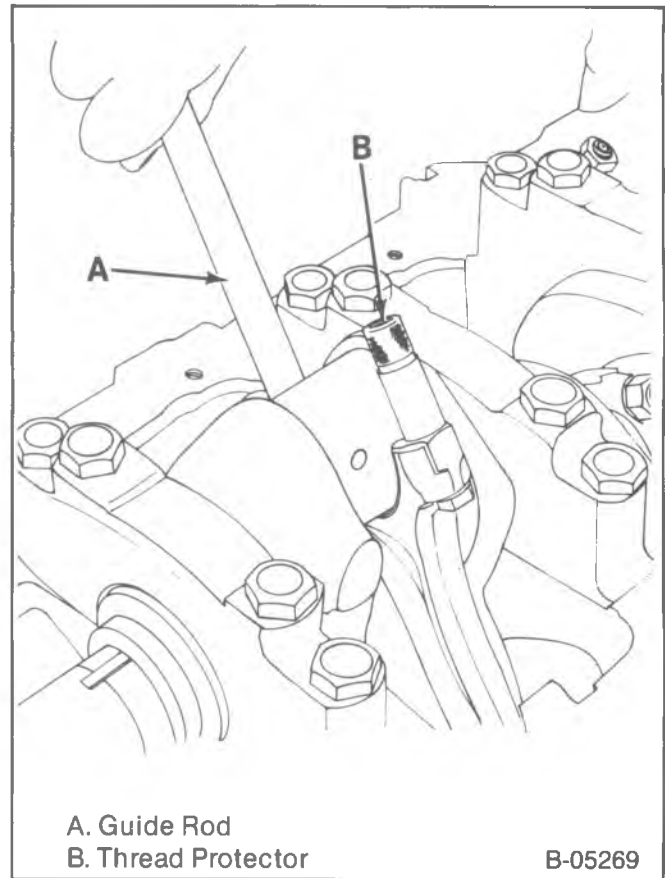
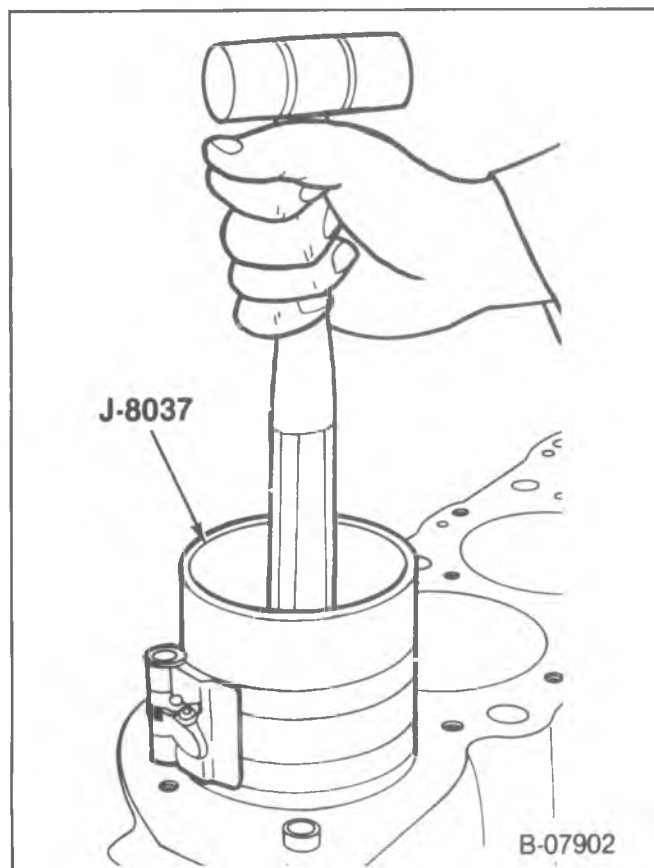

Figure 29—Replacing the Connecting Rod and Piston (Typical)
Figure 31—Installing the Piston
**Remove or Disconnect (Figure 29)**
- Attach J-5239 to the connecting rod bolts (figure 29).
**Install or Connect (Figures 29 through 32)**
- Without disturbing the ring end gap location, install J-8037 over the piston (figure 31).
- Place the piston in its matching bore. The connecting rod bearing tang slots must be on the side opposite the camshaft. Using light blows with a hammer handle, tap the piston down into its bore (figure 31). At the same time, from beneath the vehicle guide the connecting rod to the crankpin with J-5239 (figure 29). Hold the ring compressor against the block until all rings have entered the cylinder bore.